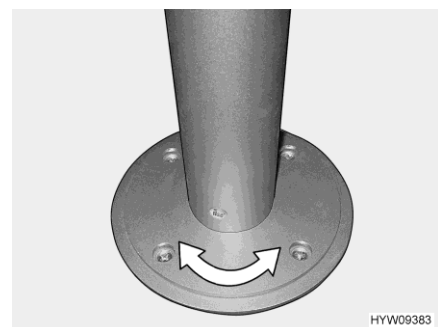

Fig. 64 Pillar table leg (rotatable)
- Rotate table top to the desired position. In order to do this, you need a little effort, because the table top rotates against the friction resistance on the pillar table leg (Fig. 64).